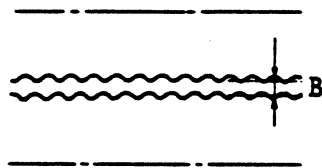

Figure 4-20 Head Unload Signal "B"
10. Use the oscilloscope to measure Channel 2 output waveform "B" with the disk drive deselected, refer to Figure 4-20.